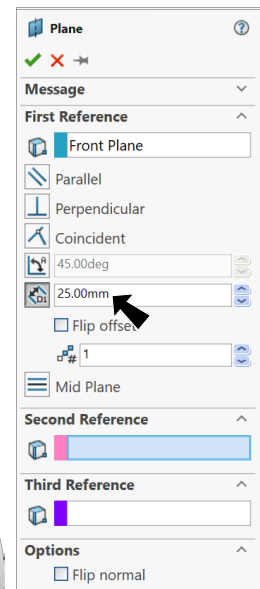

Fig. 23
Step 3. In the Plane Property Manager set: under First Reference, **Fig. 23**